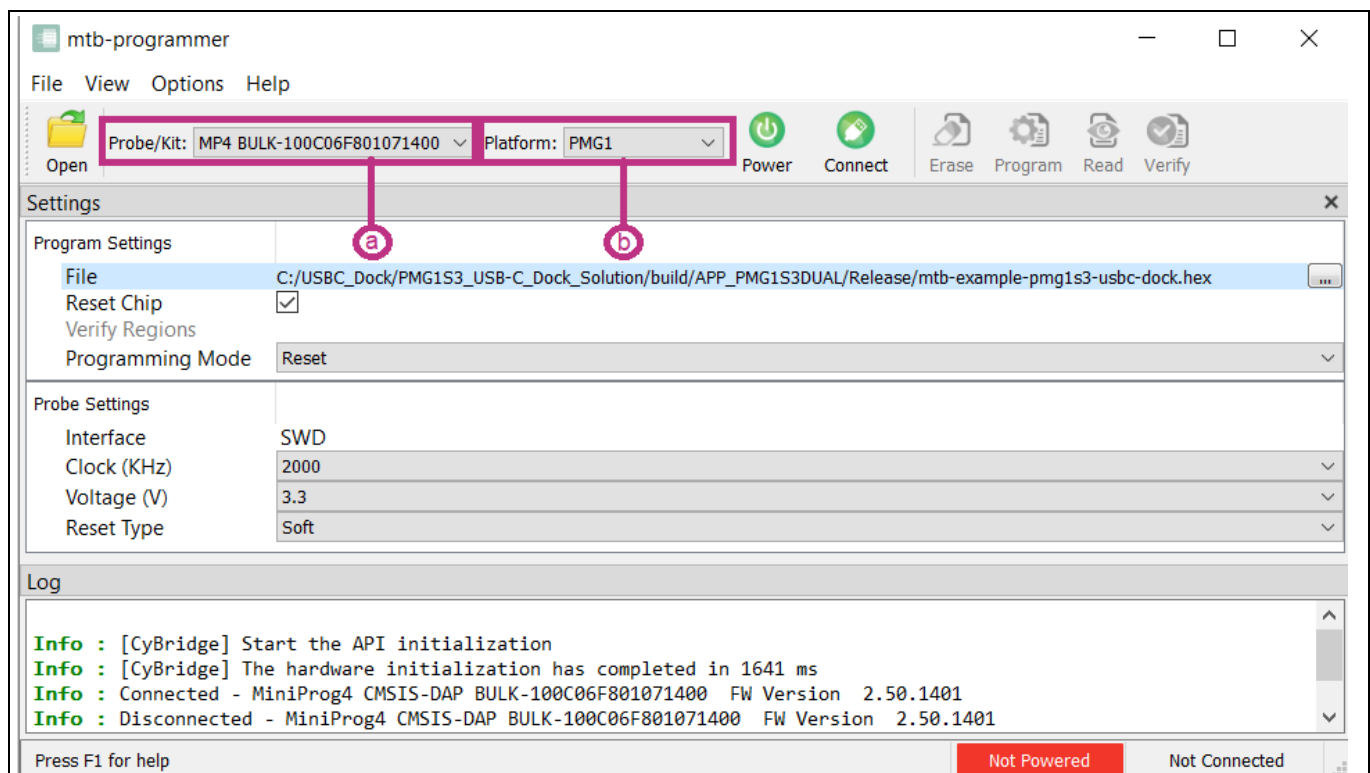

Figure 7 Setting probe/kit and platform settings for mtb-programmer
3. When the mtb-programmer starts running, do the following (see Figure 7):